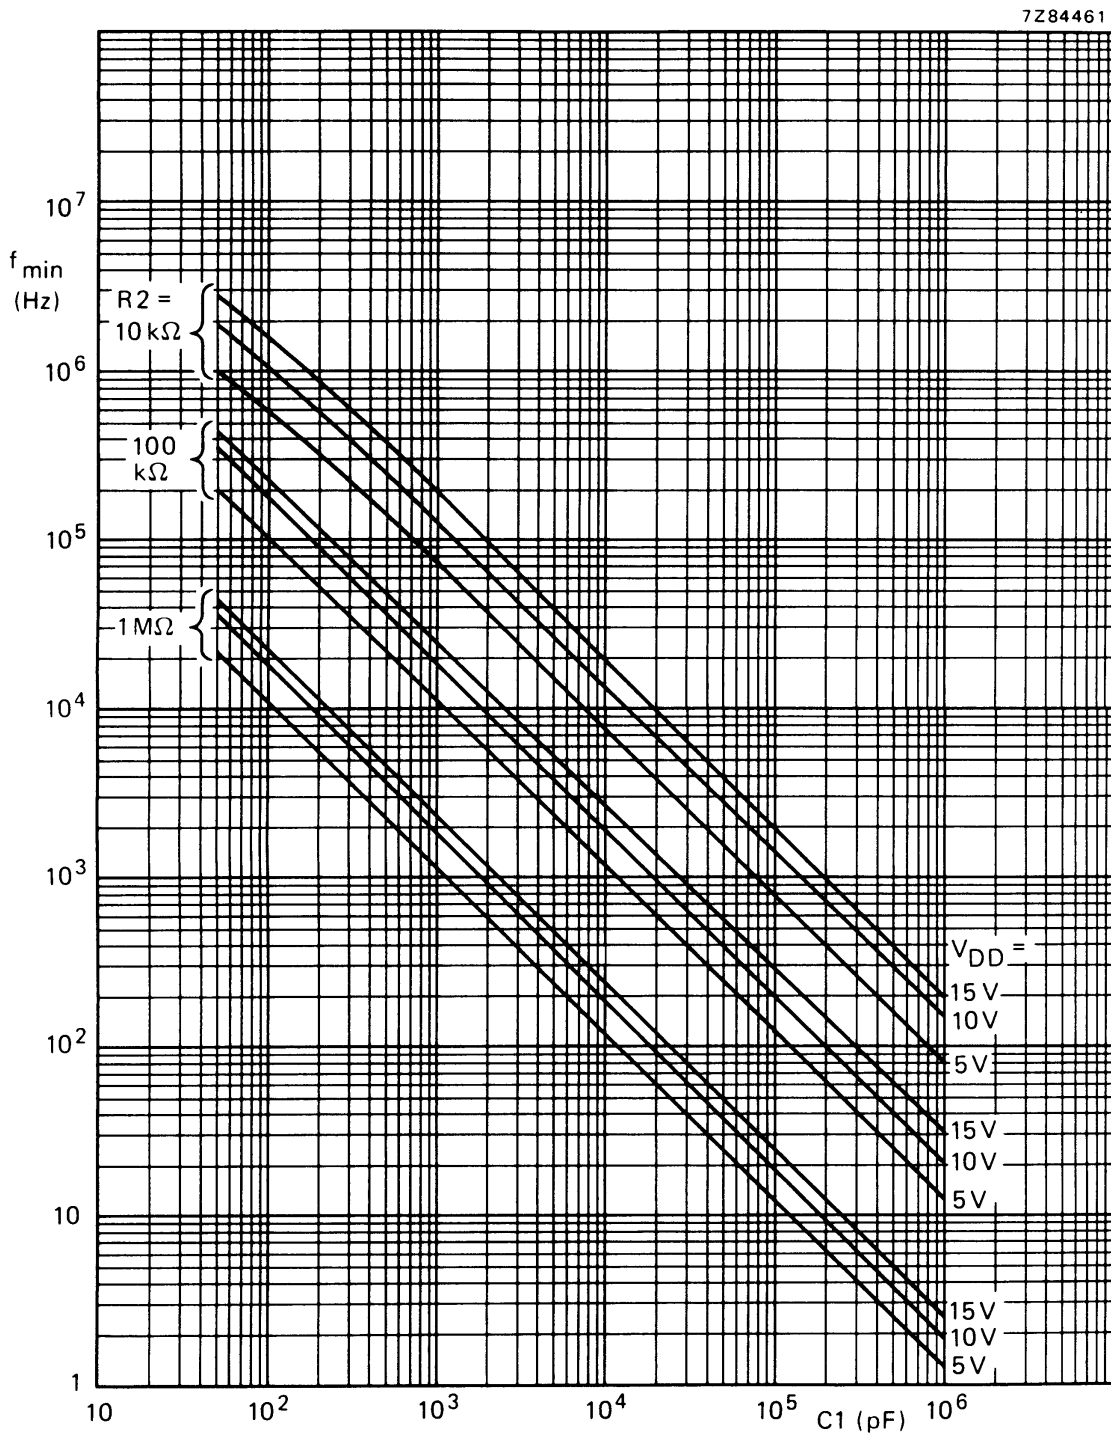

Fig.8 Typical frequency offset as a function of capacitor C_1 ; $T_{amb} = 25\text{ }^\circ\text{C}$; V_{COIN} at V_{SS} ; INH at V_{SS} ; $R_1 = \infty$.
- a) Given f_o and f_L : calculate f_{min} from the equation f_{min} = f_o - f_L; use f_{min} with Fig.8 to determine R2 and C1; calculate $\frac{f_{max}}{f_{min}}$ from the equation $\frac{f_{max}}{f_{min}} = \frac{f_o + f_L}{f_o - f_L}$; use $\frac{f_{max}}{f_{min}}$ with Fig. 9 to determine the ratio R2/R1 to obtain R1.
- b) Given f_{min} and f_{max}: use f_{min} with Fig.8 to determine R2 and C1; calculate $\frac{f_{max}}{f_{min}}$; use $\frac{f_{max}}{f_{min}}$ with Fig.9 to determine R2/R1 to obtain R1.